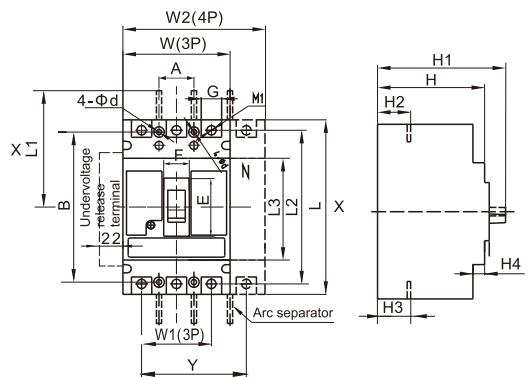
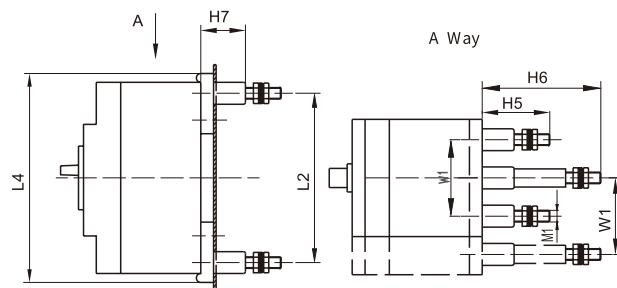
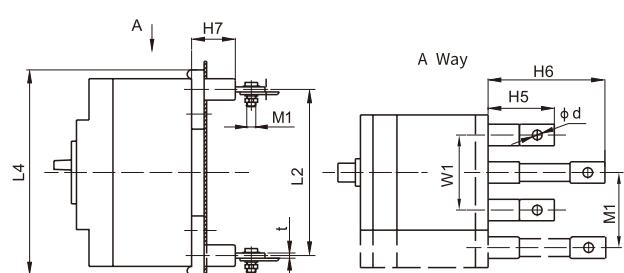

Fig.2 Fixed type front of board wiring
Fig.3 RDM1E-125, 250 Fixed type rear wiring
Fig. 4 RDM1E-400, 630, 800 Fixed type rear wiring
Appearance dimension as Fig. 2, Fig. 3, Fig. 4, Fig. 5, Fig. 6 and table 10
- (1) Front of board wiring appearance dimension as Fig. 2 (X-X, Y-Y is the center of 3P circuit breaker)
- (2) Rear wiring appearance dimension as Fig. 3, Fig. 4